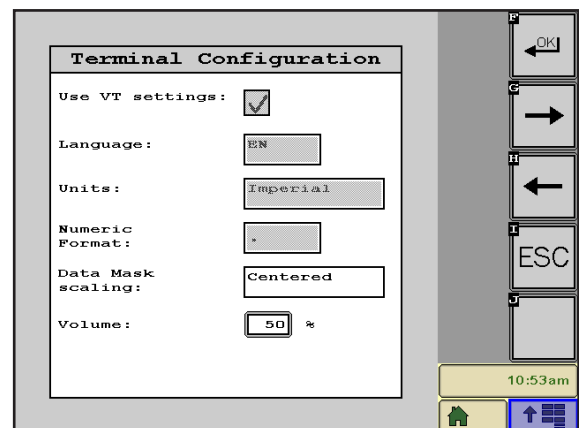
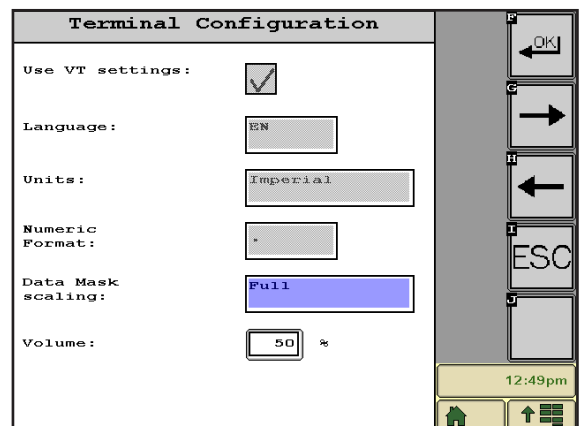

Fig. 15: Terminal configuration – page 1
Fig. 16: Data mask scaling „Full“
On the first page, you can make the settings described in the following (see Fig. 15).
- Data mask scaling (Centered, Full): Adaptation of the data mask to the resolution of the terminal. By default, “Centered” is selected (see Fig. 15 and Fig. 16).